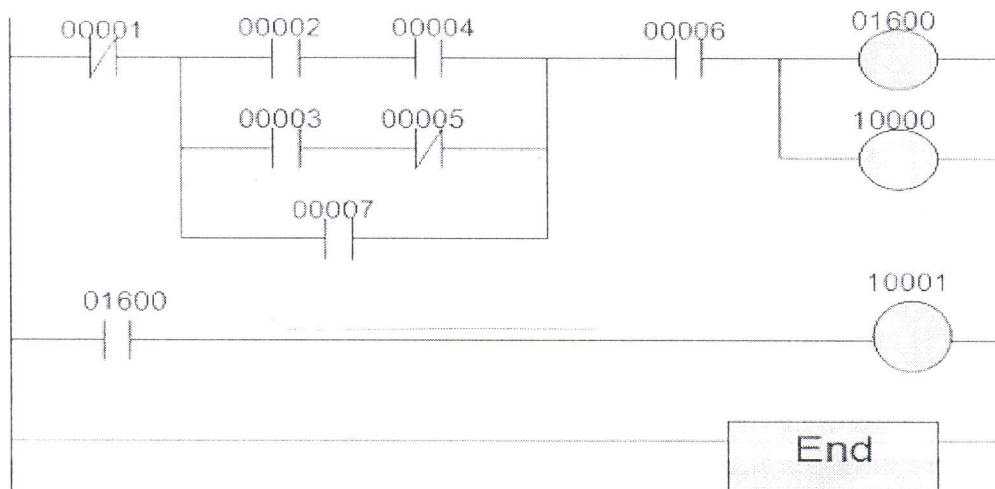

Figure 4: Ladder Diagram
- (a) Based on the Figure 4 convert the ladder diagram into Instruction List. (7 marks)